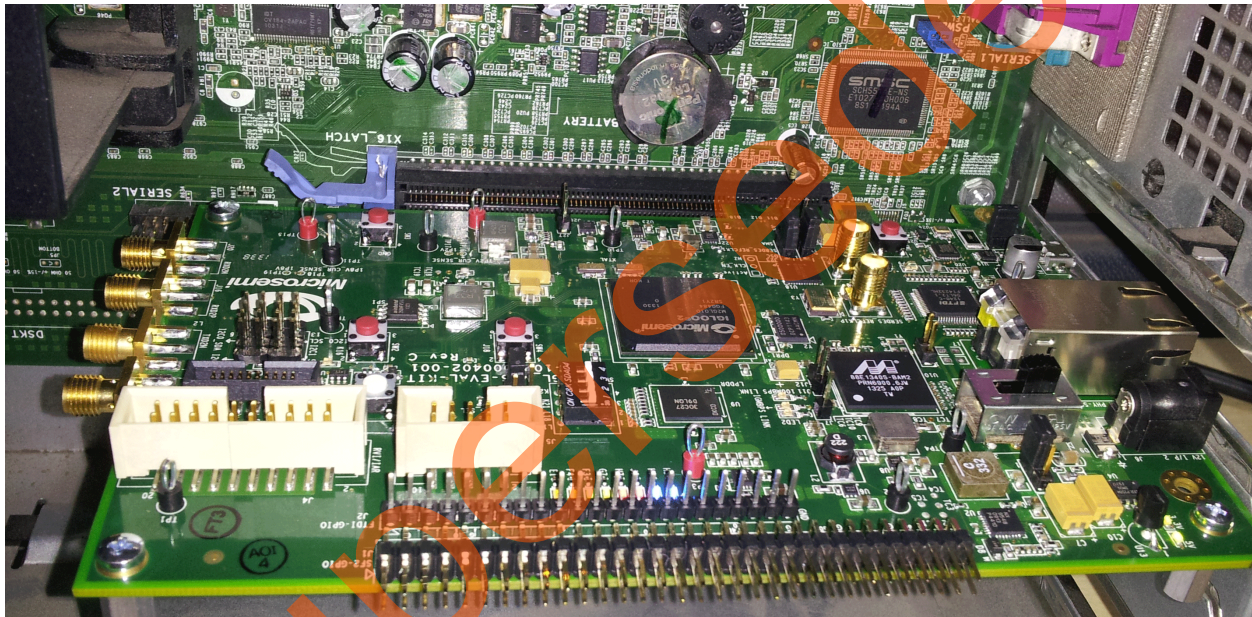

Figure 46 • IGLOO2 Evaluation Kit Setup for Host PC
3. Figure 46 shows the board setup for the host PC in which IGLOO2 Evaluation Kit is connected to the host PC PCIe slot. To connect the IGLOO2 Evaluation Kit to the Laptop using Express card adapter, refer to the "IGLOO2 Evaluation Kit Board Setup for Laptop" section.